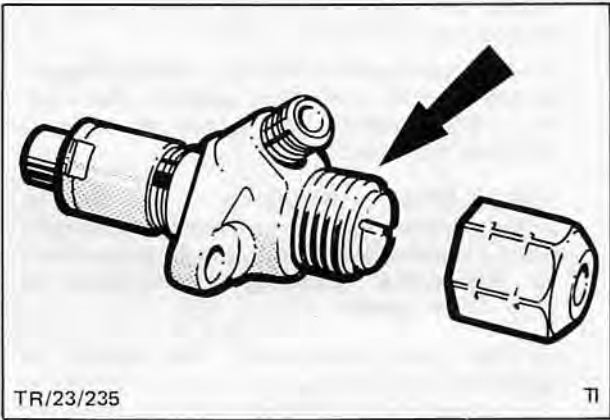

Fig. 61. Injector adjusting nut
11. Adjust opening pressure to 145 kg/cm² (145 atm) by screwing in or out adjuster nut, Fig. 61.